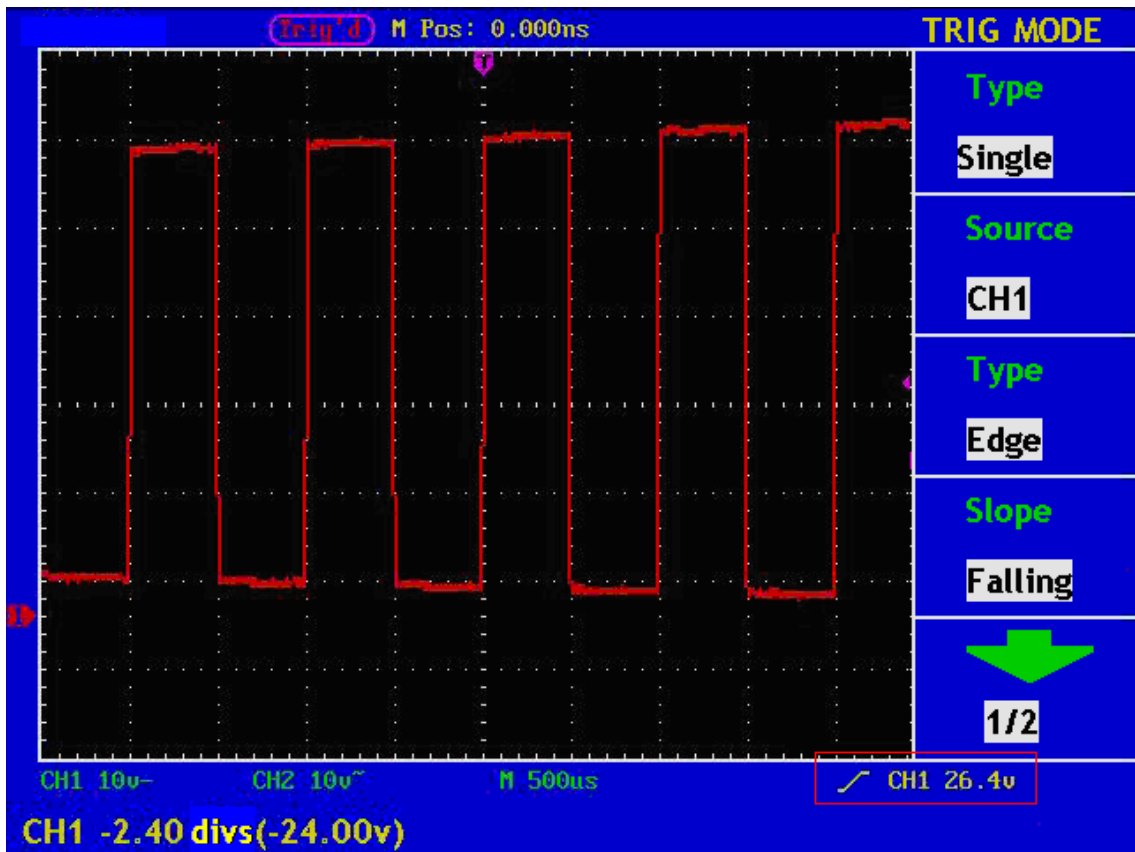

Fig. 31 Wave Form Triggered on the Rising Edge
7. Press the **F5** menu selection button and press the **F3** menu selection button choose **DC** for Coupling. The display in the screen is as Fig. 31.